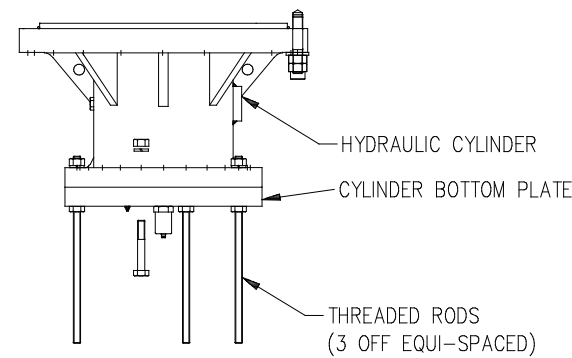

Fig 6.6.2
- Disconnect three bolts equally spaced around the cylinder bottom plate, insert threaded rod through these holes and tighten to the upper cylinder flange and bottom plate with nuts. Remove all the mounting bolts of the cylinder bottom plate. (Fig. 6.6.2)